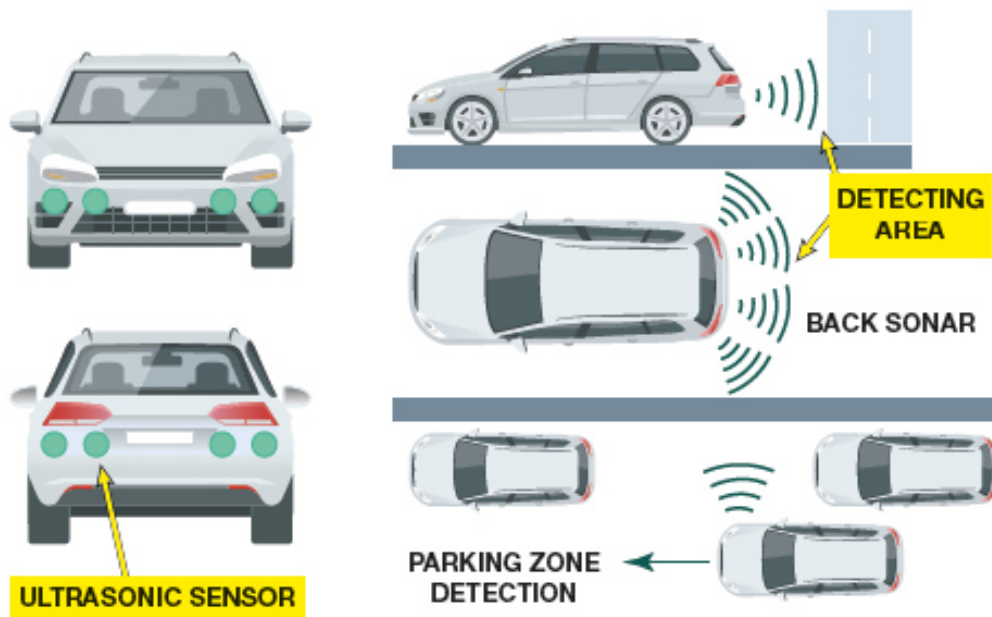

Figure 21. Parking-assist detection zones.
**Park assist.** The parking-assist system is used to help drivers avoid contact with another object while moving slowly. When backing up at speed of less than 5 MPH (8 km/h), the system constantly monitors for objects located around the vehicle. The system alerts the driver with warning tones with the frequency indicating object distance. The faster the tone sounds, the closer is the vehicle to the object. Figure 21.